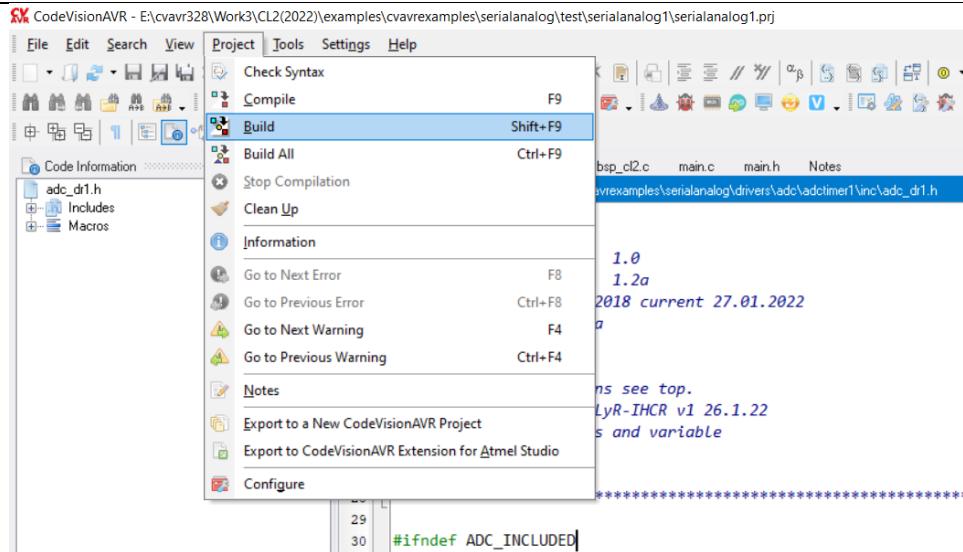
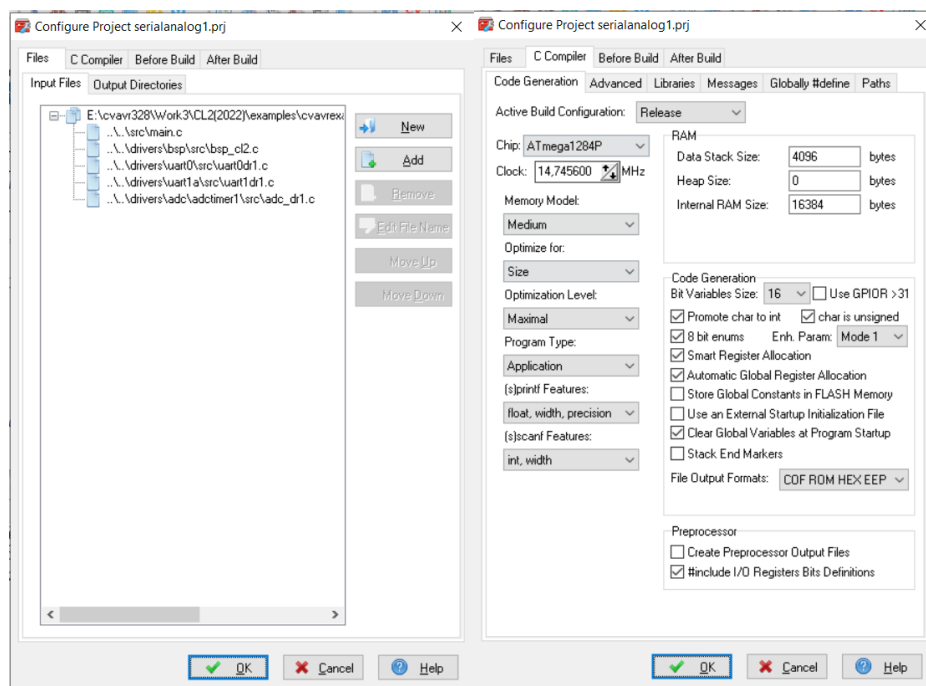

Figure 17 – Example 2 serialanalog project and building option
Figure 18 – Example 2 serialanalog project and building option
3.b.3 Opening, compiling and building /serialanalog with CodeVision AVR: Open the serialanalog1.prj within the downloaded repository example, in /serialanalog/test/serialanalog1, which should give a screen similar to that shown in Figure 17. The configuration is shown in Figure 18, and is similar to Example 1 but with addition of the new driver files.